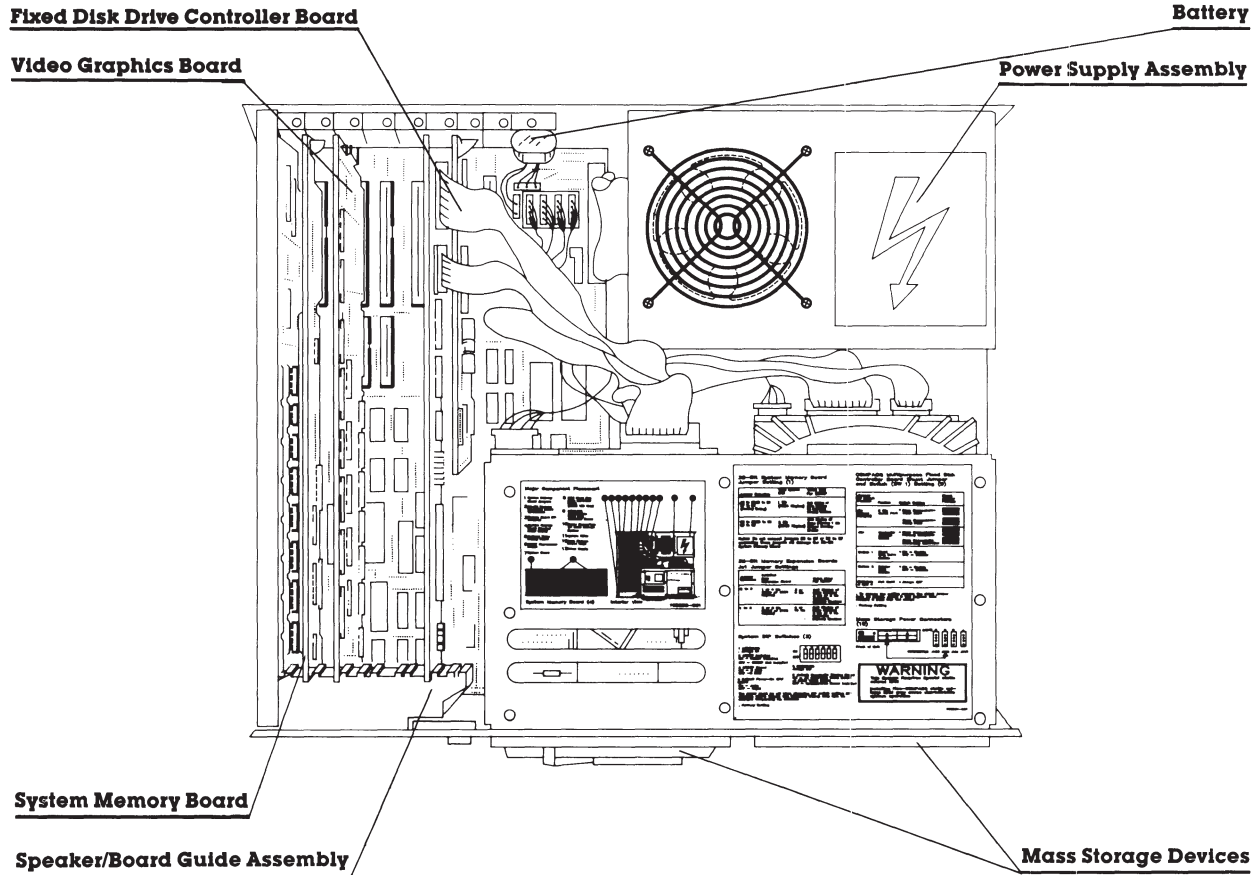

Figure 7-10. Overhead View of the COMPAQ DESKPRO 386 Personal Computer with the System Unit Cover Removed.
6. Familiarize yourself with the arrangement of the components in the computer (see Figure 7-10).